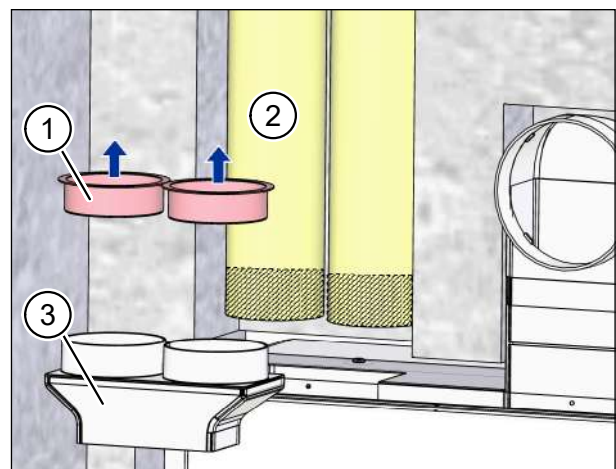

Fig. 27: Cutting flexible pipes to length
- ▶ Remove the red protective cover (item 1 in Fig. 27) from the flexible pipe connection (item 3 in Fig. 27).
- ▶ Shorten the flexible pipes (item 2 in Fig. 27) so that the flexible pipe connection (item 3 in Fig. 27) with the flexible pipes inserted can be pushed into the opening on the wall box.